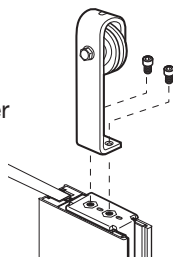

Figure 13
Line up the holes on the Roller Bracket (O) with the U bracket (G) and secure with the 2 allen screws (Y). Repeat with the other Roller bracket (O). See Figure 13.